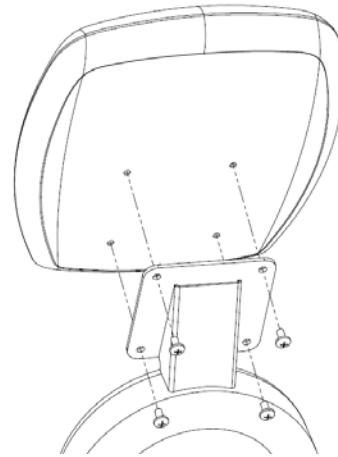

Fig. 8
7. Hover the console (Fig. 8) over the neck mast and connect the cable coming out of the mast into the cable protruding from the console.